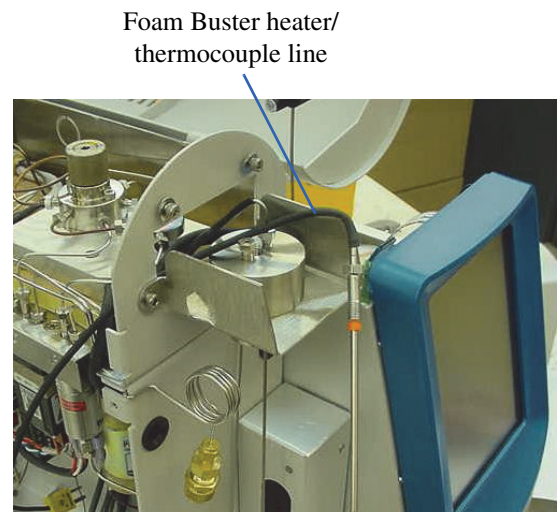

Figure 8.8. Installing the Foam Buster heater/thermocouple assembly
3. Place the Foam Buster heater/thermocouple leads through the hole behind the sparge mount and into the valve oven area (Figure 8.8).